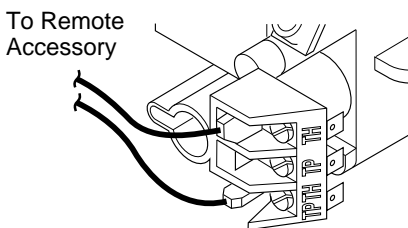

Figure 41 - Connecting Remote Accessories to Control Valve
5. Connect wire leads to TH and THTP to control valve (see Figure 41).